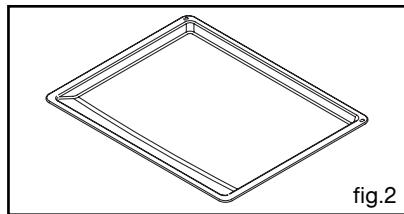

fig.2
• ***Multi-purpose dish (fig.2)***